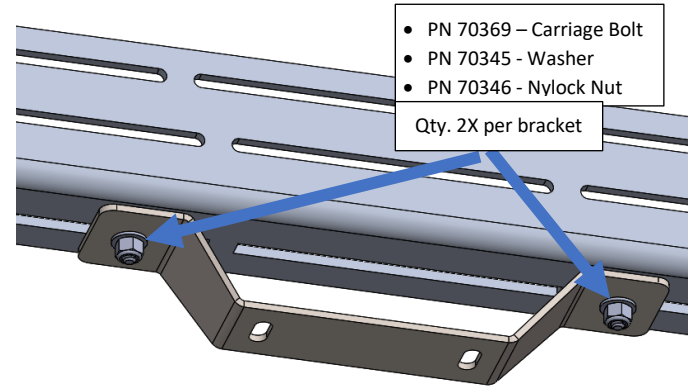
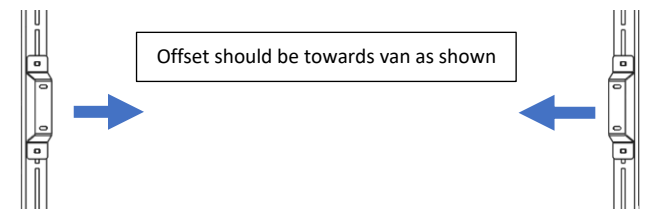

Figure 4: Fastening Mounting Bracket (Underside)
Figure 5: Sprinter Mounting Bracket Orientation
- Fasten mounting brackets to side rail subassemblies completed in Step 1 at the following locations referenced in Figure 3. Use the 5/16" hardware and reference Figure 4 & Figure 5 for proper placement.